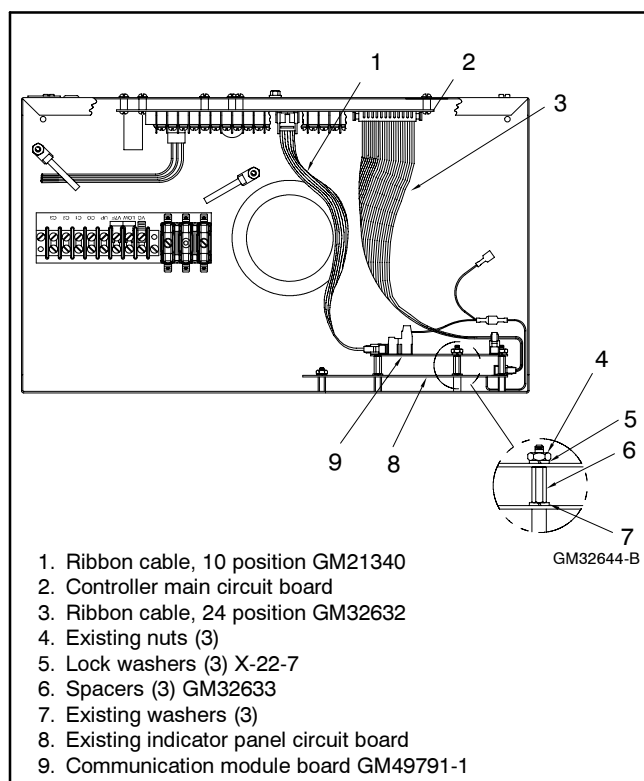

Figure 7 Mounting Communication Module Board in 16-Light Controller
- 2.3 Attach the three spacers to the indicator panel circuit board studs. See Figure 7.
- 2.4 Remove existing 24-position ribbon cable 336428 between the indicator panel circuit board and the main circuit board. See Figure 7. This ribbon cable will not be reused.